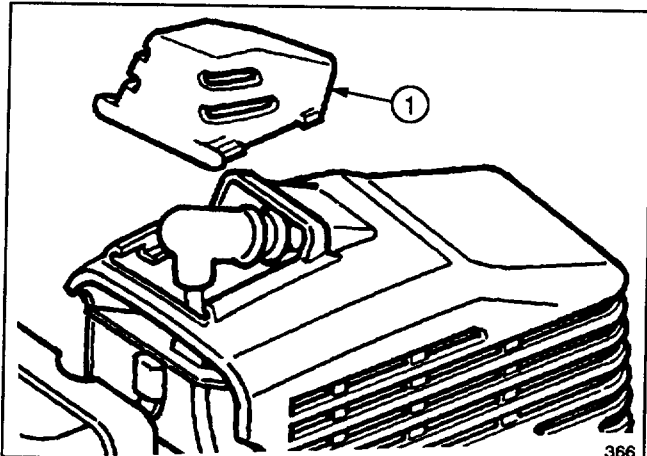

Figure 16
- Stop engine. Remove spark plug cover by squeezing sides and slide off engine cover (Fig. 16). Pull wire off spark plug.